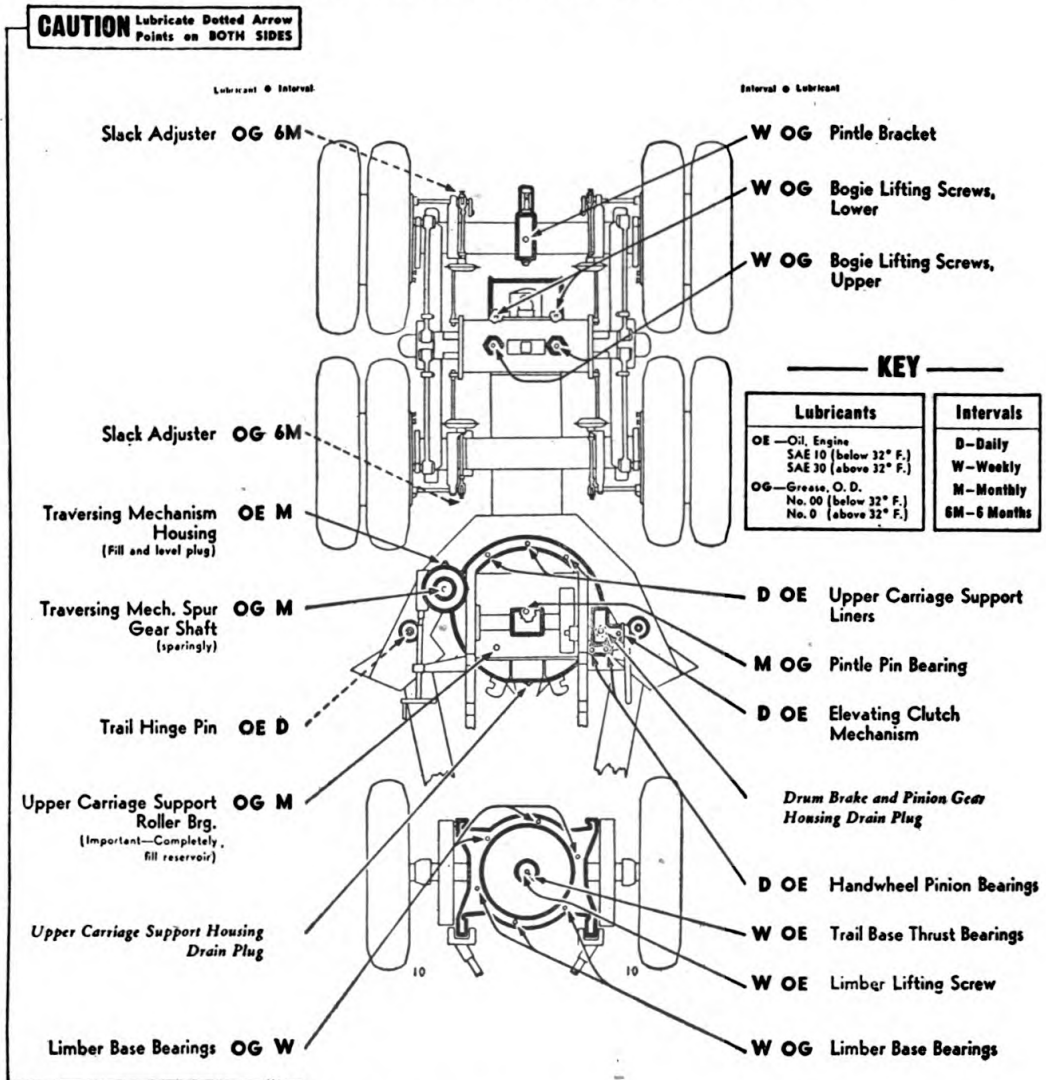

FIGURE 42.—Bogie, carriage and limber—lubrication guide.
(1) Lubrication charts, figure 41 for the gun, and figure 42 for the carriage and limber, designate the oils and greases to be used and the lubrication intervals.
(2) No lubricants should be used other than those prescribed.
(3) The intervals indicated are for normal service. For extreme conditions of speed, heat, water, mud, snow, rough roads, and dust, lubricate more frequently.
(4) All fittings should be cleaned before applying lubricants.
(5) Lubricating fittings are painted red for ease of locating. Oil-holes are encircled by a red ring.